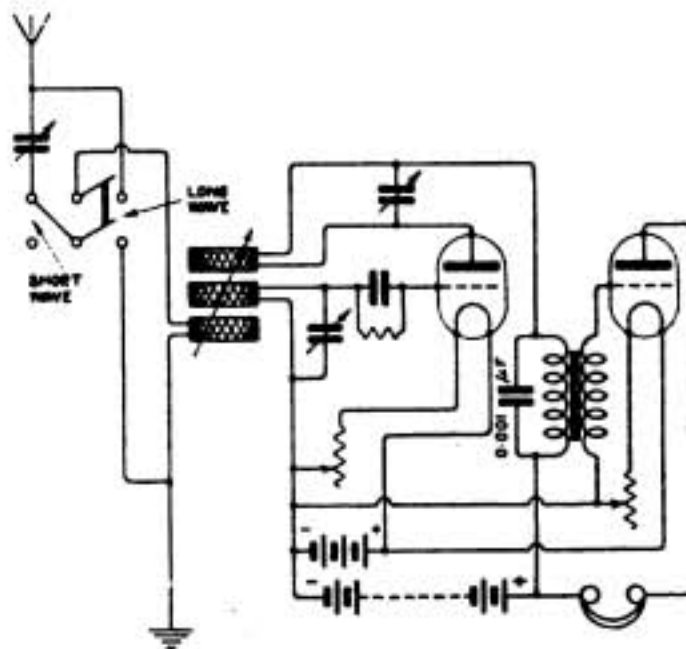

Fig. 1.
(1) See Fig. 1. (2) Receiving valves are usually so constructed that they can be operated in any position. This does not apply to large transmitting valves and rectifying valves however.